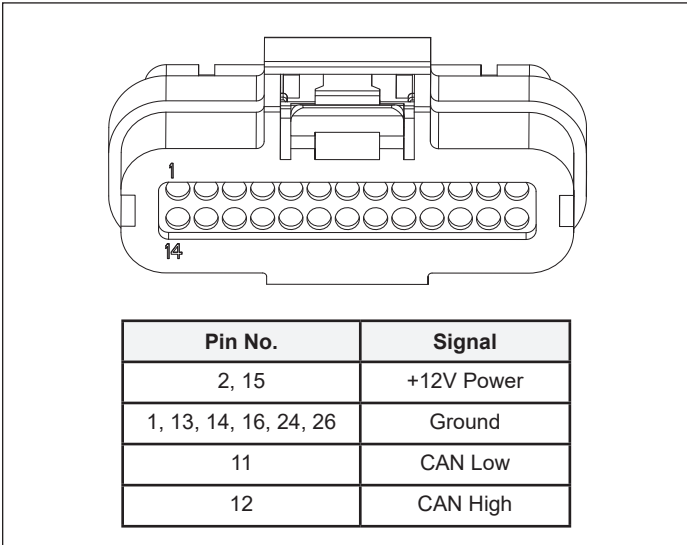

Figure 3 - Replacing the Original Harness Connector
- Make note of the wire colors and position(s) on the original connector housing. It is important to identify the power, ground, CAN high, and CAN low wires. These will normally be red, black, yellow, and green respectively. If these are not the colors used, use the pin diagram in Figure 3 to identify and notate the wire signals.